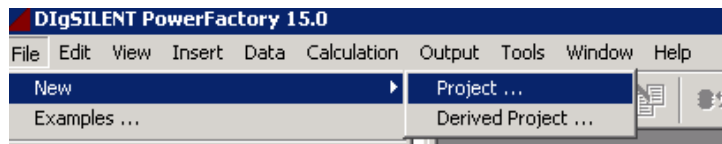

Figure C.2.1: Creating a new Project from the file menu
- Choose *Project...* as shown in Figure C.2.1